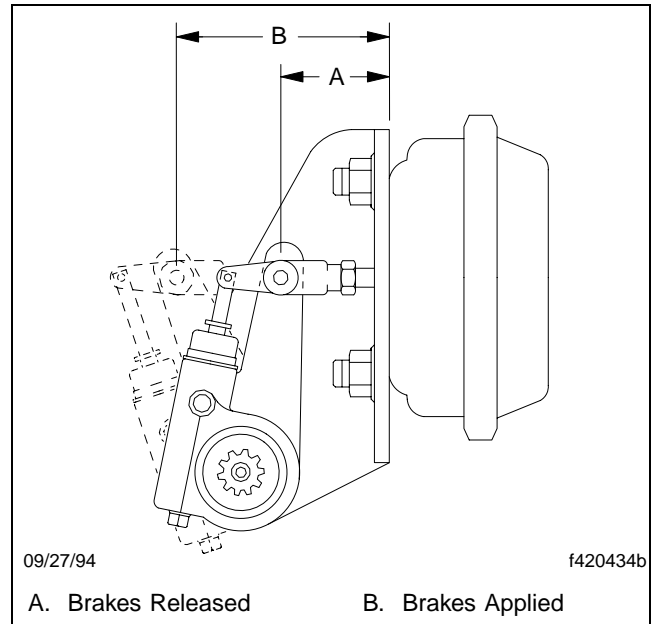

Fig. 5, Make these Measurements
- 7.1 With the brakes fully released, use a ruler to measure the distance from the bottom of the brake chamber to the center of the large clevis pin. See **Fig. 5**.
- 7.2 Build air pressure to at least 85 psi (586 kPa). Apply the brakes, then measure the distance from the bottom of the brake chamber to the center of the large clevis pin. See **Fig. 5**. The difference between the measurements is the brake chamber stroke.